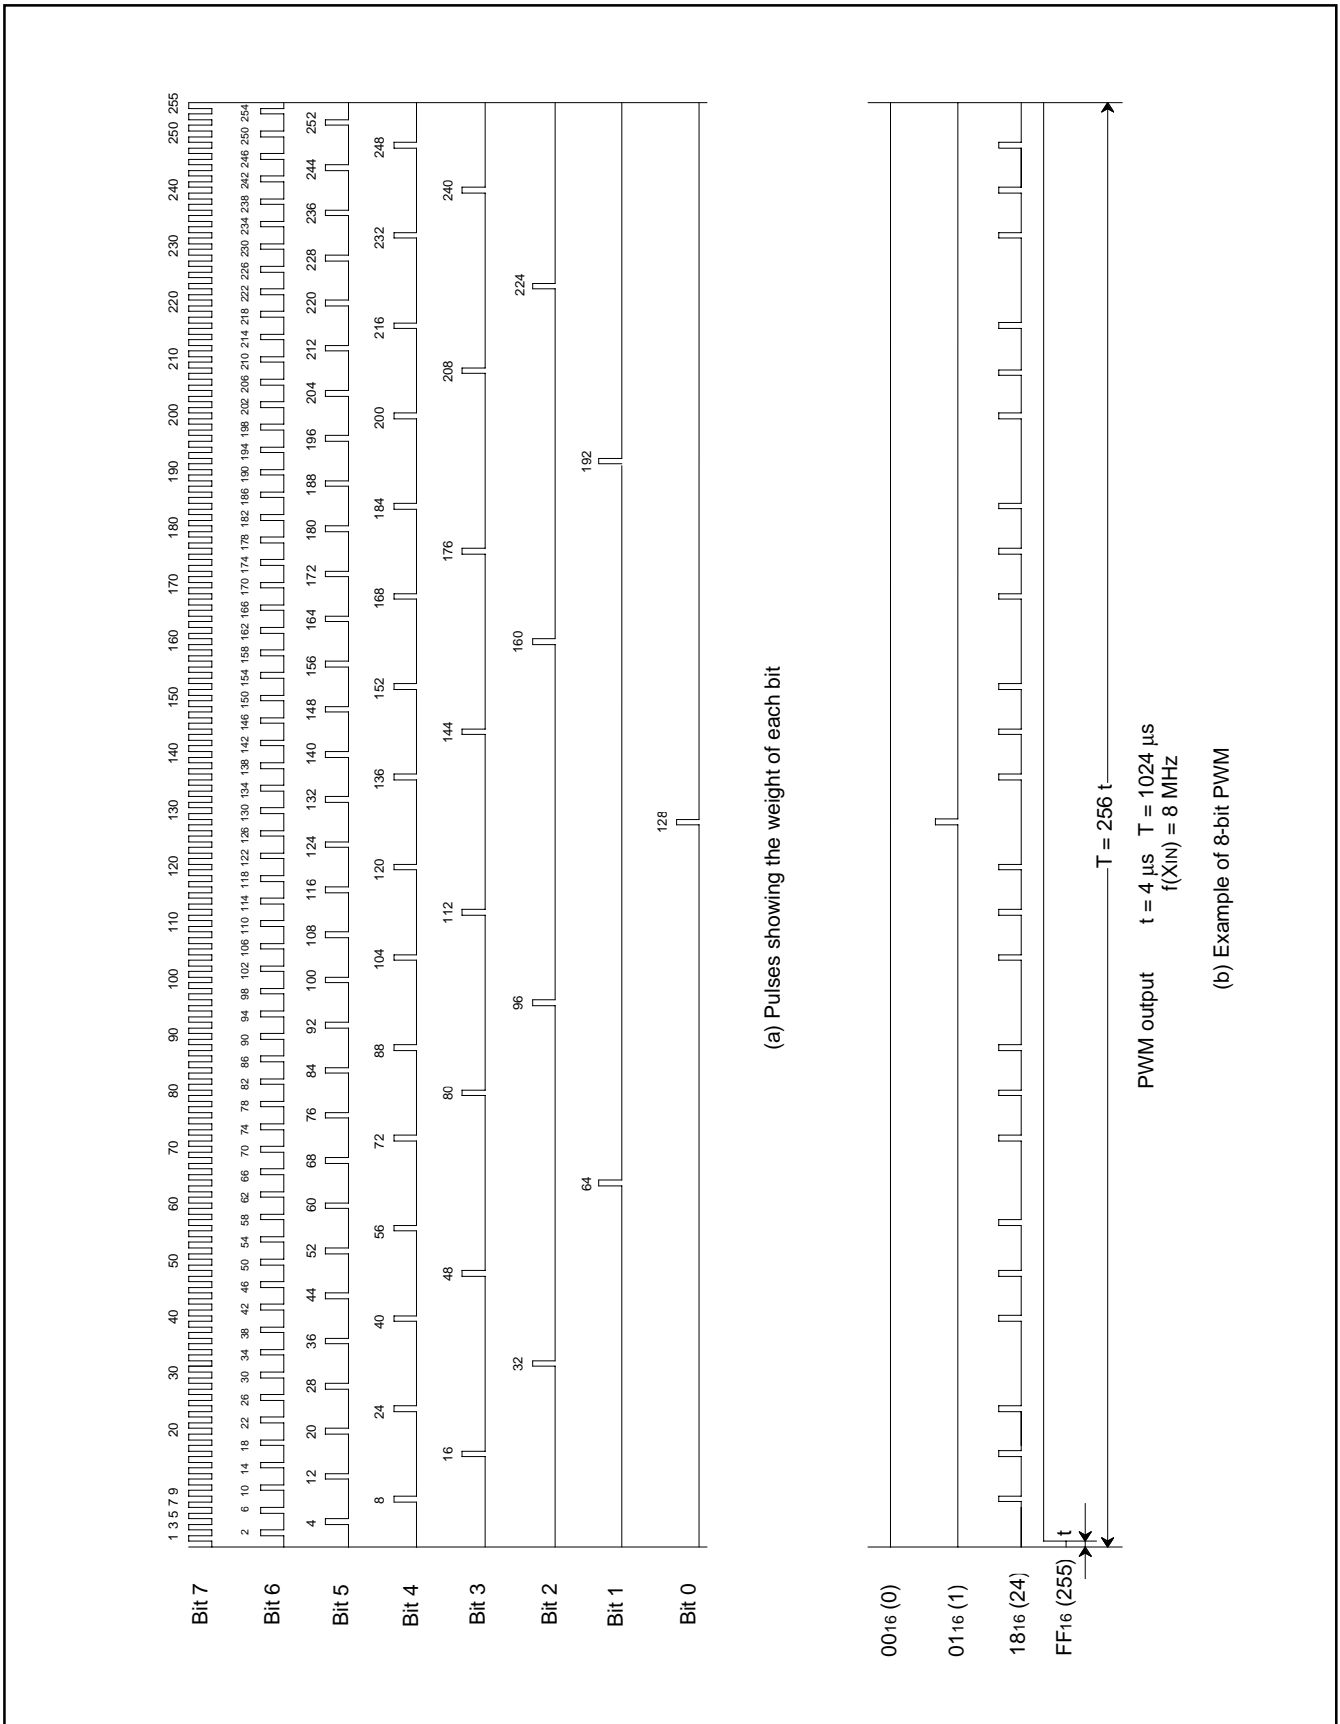

Fig. 8.7.2 PWM Timing
Figure 8.7.2 shows the PWM timing. One cycle ( $T$ ) is composed of 256 ( $2^8$ ) segments. The 8 kinds of pulses, relative to the weight of each bit (bits 0 to 7), are output inside the circuit during 1 cycle. Refer to Figure 8.7.2 (a). The PWM outputs waveform which is the logical sum (OR) of pulses corresponding to the contents of bits 0 to 7 of the PWM register. Several examples are shown in Figure 8.7.2 (b). 256 kinds of output (HIGH area: 0/256 to 255/256) are selected by changing the contents of the PWM register. A length of entirely HIGH cannot be output, i.e. 256/256.